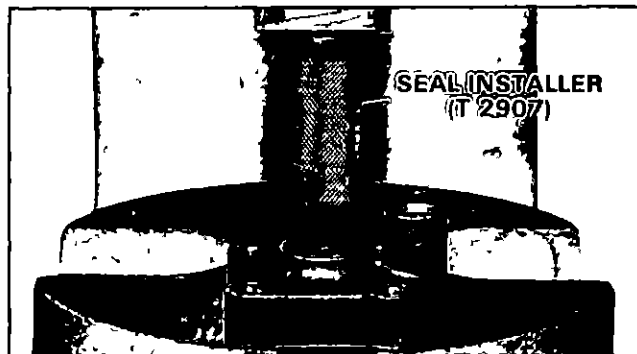

Figure 47. Installing Driveshaft Seal.
- B Place new seal, spring end up, on top of seal bore. Use seal installer to press seal in. Figure 47. Special Tool No T 2907